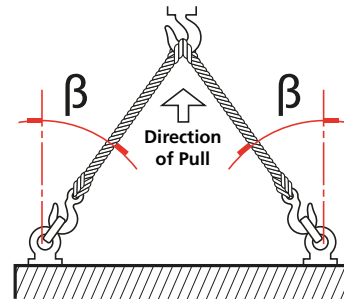

Fig 7.1 Lifting (single-acting actuator up to size 161)
- In case of single-acting actuator, hook the double chain slings on the lifting lugs, as shown in Fig 7.1.